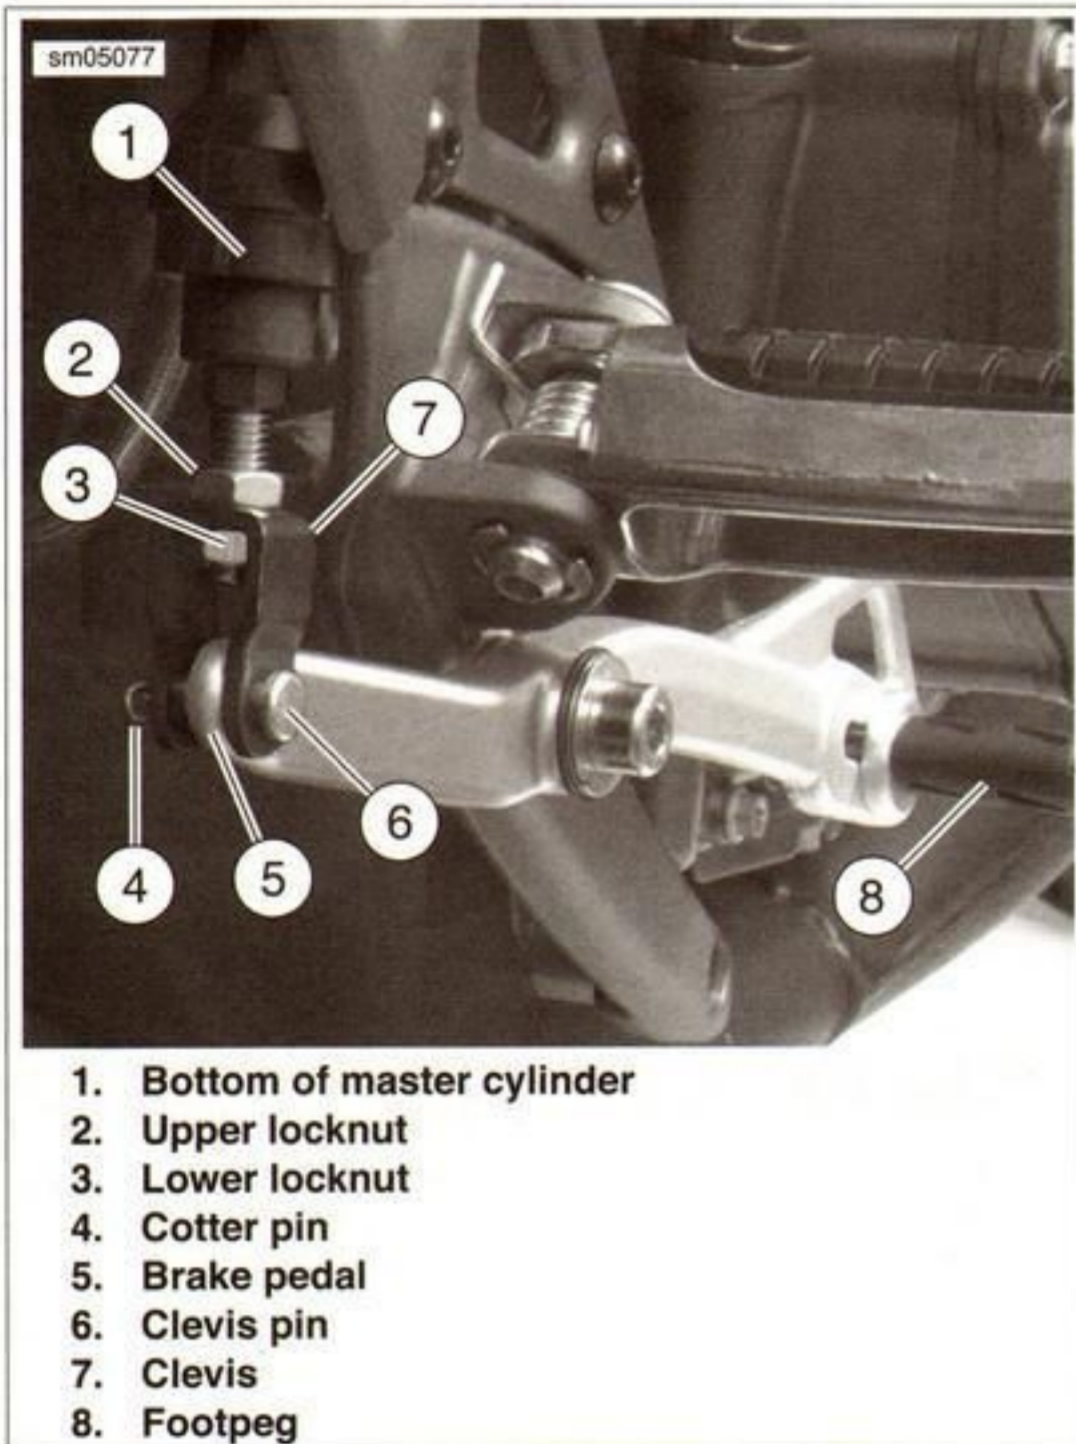

Figure 1-25. Pedal Adjustment
- See Figure 1-25. On the end of the threaded brake rod are an upper locknut (2) and lower locknut (3). To verify proper thread engagement with the clevis (7), the threads must extend below the lower locknut between 0.76-5.84 mm (0.030-0.230 in).
- a. See Figure 1-25. Loosen upper locknut (2). Move locknut away from top surface of clevis (7).
- b. Remove cotter pin (4) and clevis pin (6) from brake pedal (5).